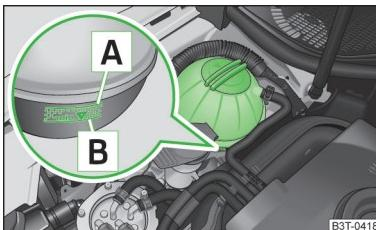

Fig. 129
When refilling, only use the same antifreeze identified on the coolant expansion vessel » Fig. 129 on page 145.
- Do not fill the coolant above the mark **A** » Fig. 129 on page 145.
The coolant expansion bottle is located in the engine compartment » Fig. 129.
Explanation of graphic » Fig. 129
Check the level of coolant at the coolant expansion vessel » Fig. 129.
If the engine is warm, the test result may be inaccurate. The stand can also be above the mark **A** » Fig. 129 .